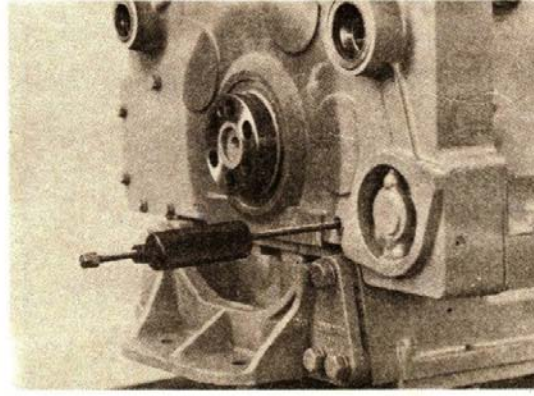

Fig. 0-44. Remove the master dowel
2. Use a cylinder head bolt, washer and a weight to make a slide hammer - type puller like the one shown in Fig. 0-44.